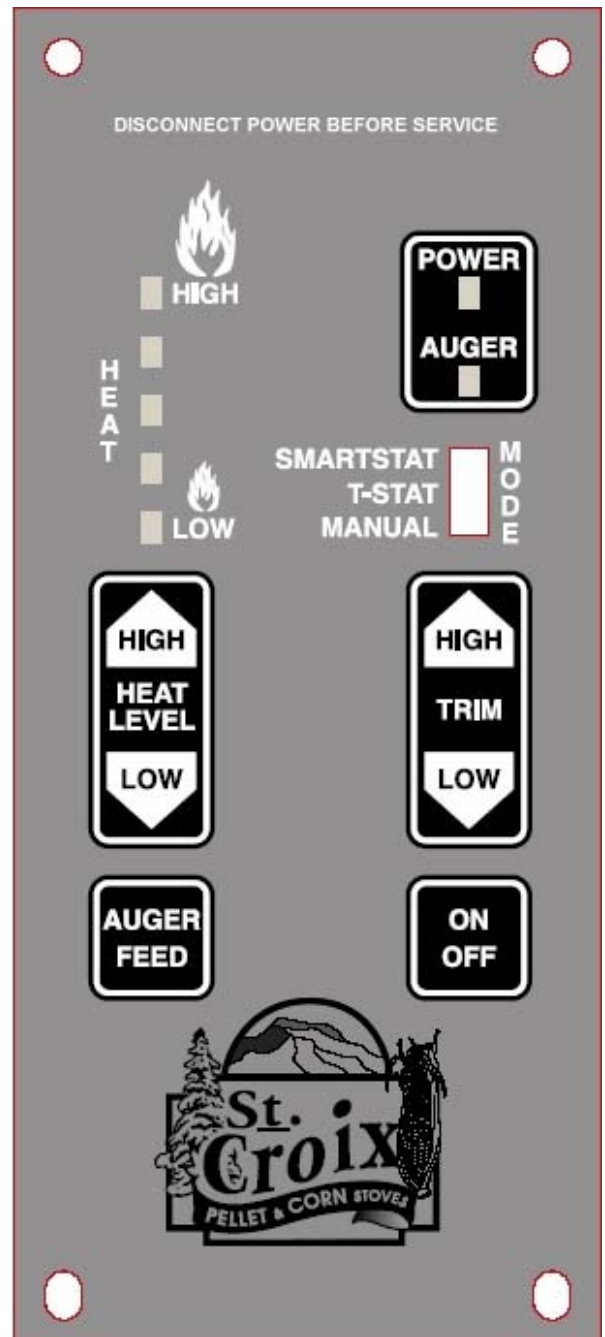

Figure 17
A closer look at the Control Board to the right in figure 17 will explain how the board works. There are essentially 4 buttons on the control board. Two of these buttons, the **Heat Level** and **Trim** Buttons, have a High/Low side to advance these settings up or down. There is a slide switch that controls the Thermostat Mode and an LED Light bar that indicates which of the 5 Heat Settings the Furnace is running on.
Shutting The Furnace Off (Refer to Figure 17)
The #2 LED, #3 LED and #4 LED lights on the LED Light bar (*See figure 17*) will flash to give a diagnostic code to help in diagnosing problems that may occur.
1. The **Proof of Fire** switch. This switch will sense the temperature of the Exhaust rising during start up. If the Exhaust temperature does not reach 110 degrees F, or if, during use, the temperature drops below 110 degrees F, the Furnace will go into **“Internal Alarm”** and the Auger will quit feeding fuel. Once the Furnace completes the safety shutdown, the #3 LED will start blinking. (*See Figure 17 on Page 29*)
2. The **High Limit** switch. This sensor will sense if the unit reaches temperatures that are too high for normal operation. If this happens the Auger will quit feeding and the #4 LED light will start blinking. (*See Figure 17 on Page 29*)
3. The **Vacuum** switch. For the Furnace to operate correctly the firebox needs to be sealed. During the first 30 seconds after the Furnace has been turned on the control board will check to see if the switch senses negative pressure (Vacuum) in the firebox of the Furnace. If there is no negative pressure, the Furnace will go into “Safety shutdown” and the #2 LED will start blinking. (*See Figure 17 on Page 29*)